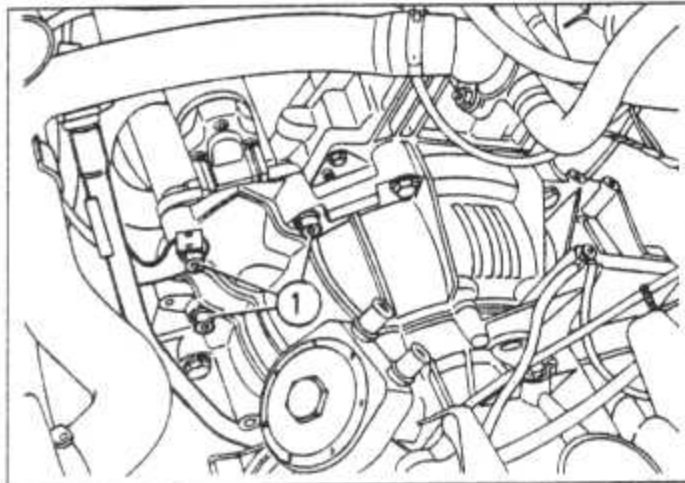

Fig. 13.45 Socket-headed starter motor fixing bolts (1) (Sec 14)
42 Remove the socket-headed bolts (1) (Fig. 13.45).